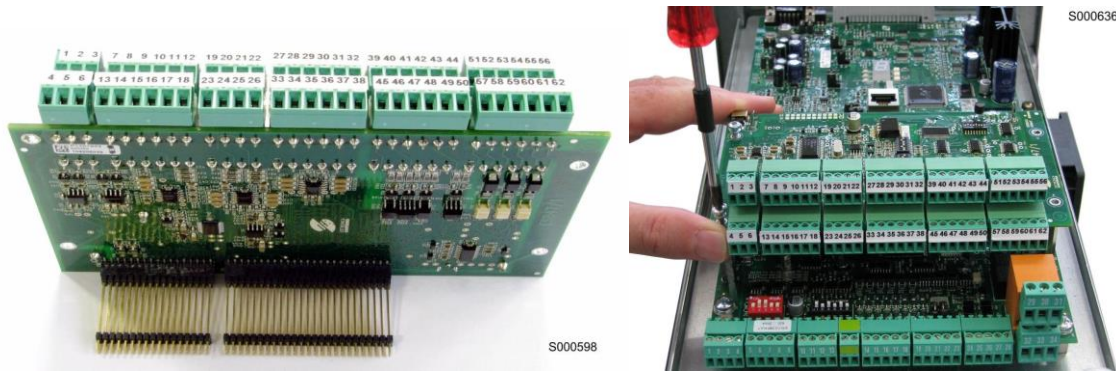

Figure 120: Fitting the strips inside ES847 board and fixing the board on slot C
3. Insert the two contact strips supplied in the bottom part of ES847 board; make sure that each contact enters its slot in the connector. Insert ES847 board over the control board of the drive; make sure that each contact enters its slot in the signal connector. Use the screws supplied to fasten board ES847 to the fixing spacers (Figure 120).